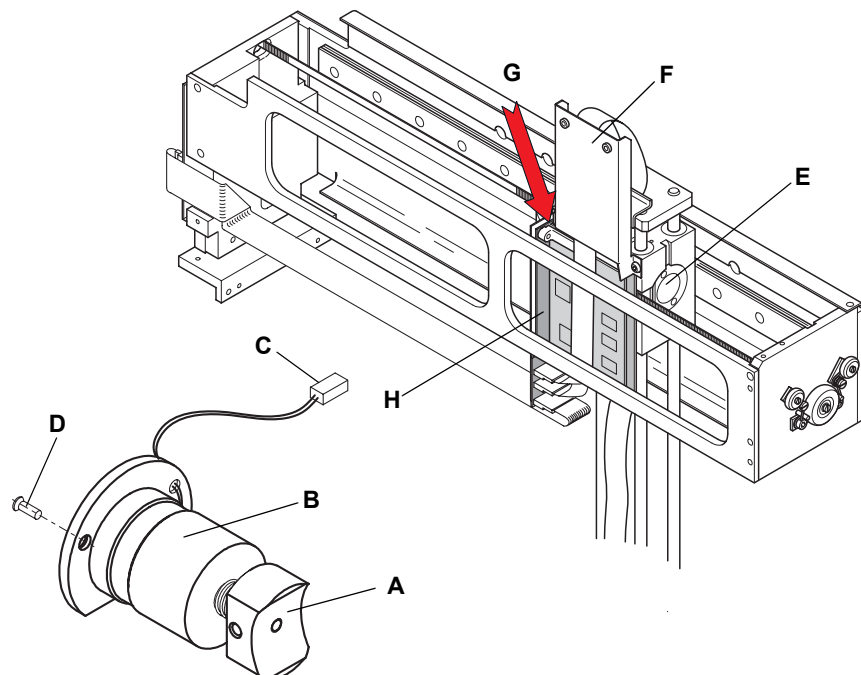

Fig. 8-87 Z-brake
- 1 Press the brake shoe (A) in the direction of the arrow to the stop.
- Loosen the set screw (B).
- Hold the axle (C) with a pair of pliers and turn the brake shoe (A) until the distance is correct.
- 4 Fasten the set screw (B) when the adjustment is done.
- 5 Install the Z-brake (B, see Fig. 8-87 “Z-brake”, Fig. 8-77) in reverse order as described for removal.